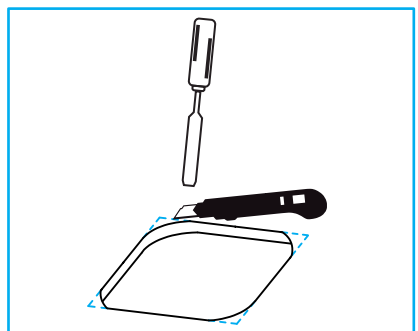

Fig.30
**Note:** For square trim installations, use a sharp utility knife to score wood, forming two square corners. Then, use a sharp wood chisel to remove the remaining material to the same depth **"Fig.30"**.